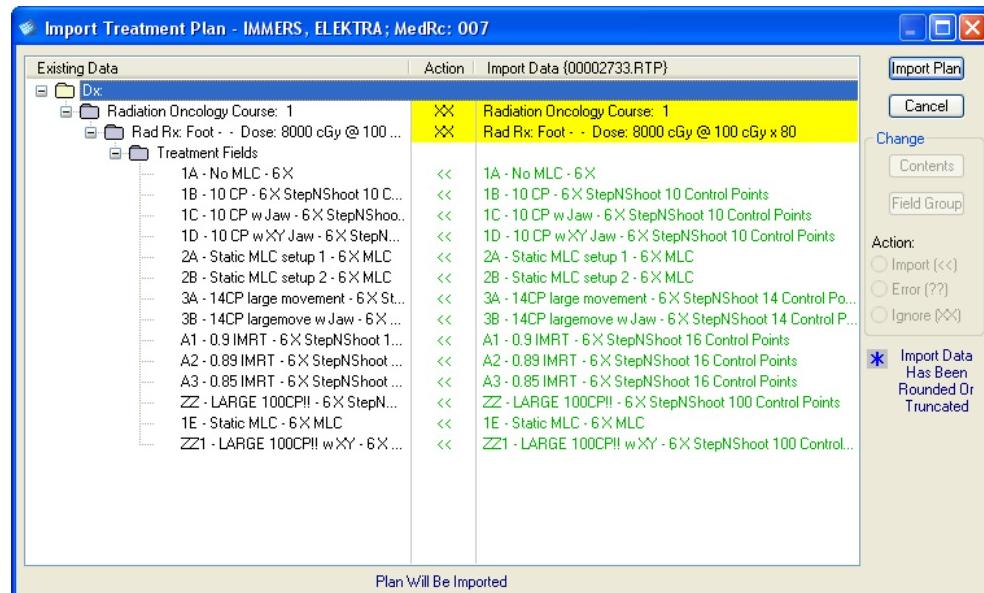

Figure 13: Import Treatment Plan Window with IMRT Fields
- Double-click an RTP file with IMRT fields to open the Import Treatment Plan window, shown in Figure 13.